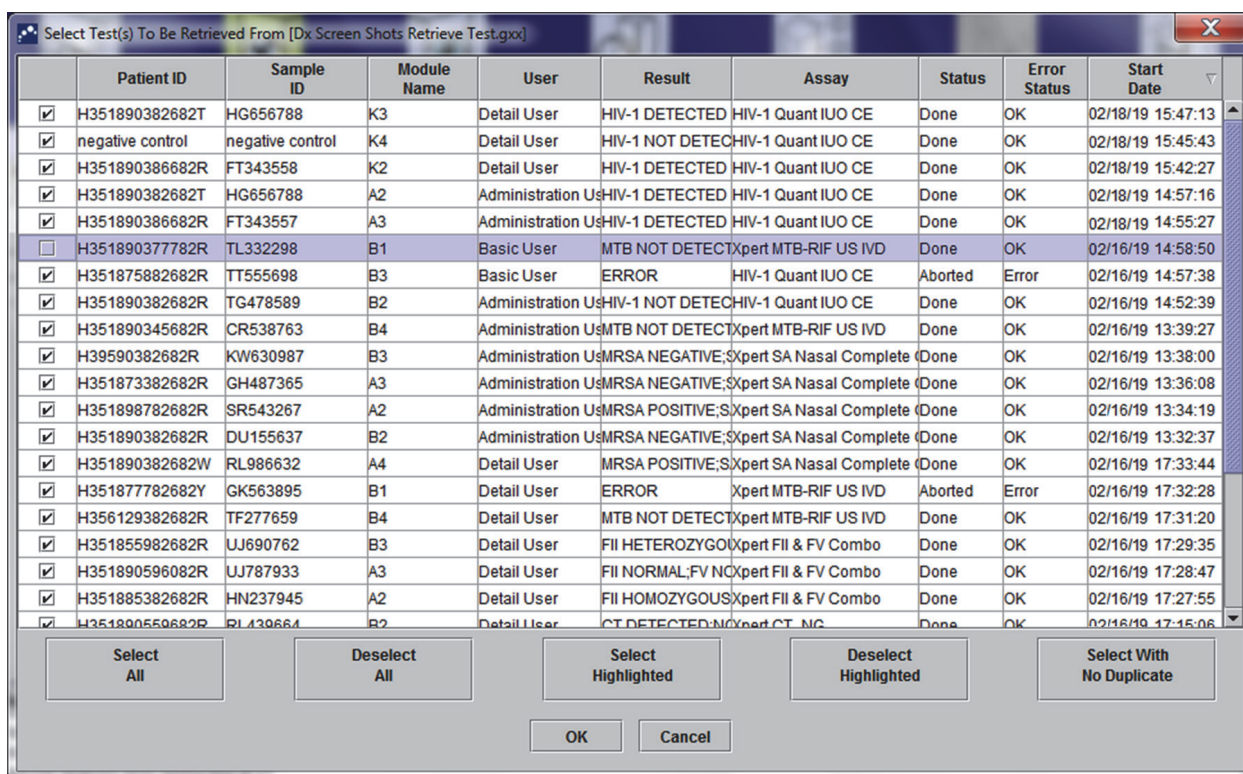

Figure 5-61. Select Test(s) to Be Retrieved Dialog Box
3. The Select Test(s) To Be Retrieved From dialog box appears (see Figure 5-61). The tests that already exist in the current database appear in red text. Click **Cancel** in the Open dialog box to not retrieve any archived tests.